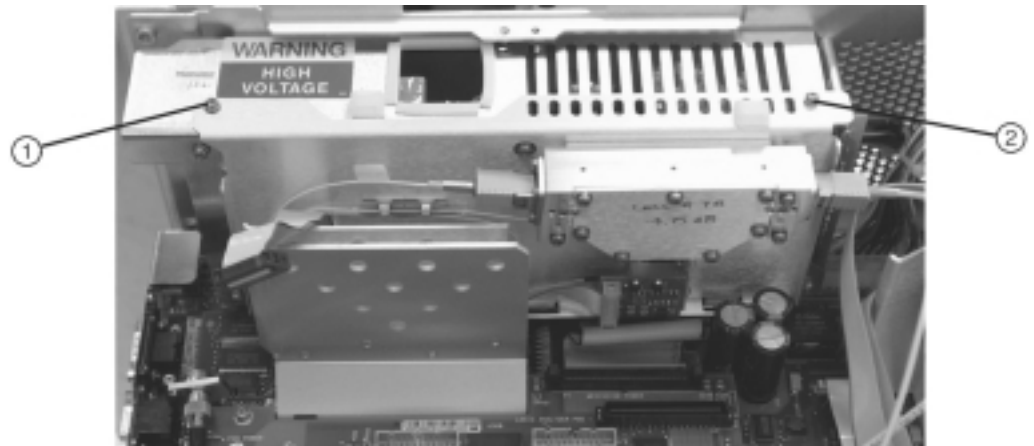

Figure 3-56. Detaching the calibrator bracket from the power supply
- a** Using a T-10 TORX driver, remove the two screws fastening the calibrator bracket assembly to the power supply. See ① and ② in Figure 3-56 below.